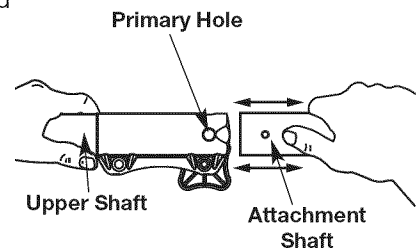
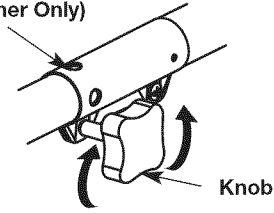

Fig. 10
Fig. 11
1. Turn the knob counterclockwise to loosen (Fig. 11).
3. While firmly holding the upper shaft, pull the trimmer attachment or other attachment straight out of the Convertible™ coupler (Fig. 10).
**CAUTION:** Before operating this unit, be sure that the release button is fully snapped into the primary hole (Fig. 10), and that the knob (Fig. 11) is securely tightened.
1. Turn knob counterclockwise to loosen (Fig. 11).
2. While firmly holding the trimmer attachment or other attachment, push it straight into the Convertible™ coupler until the release button snaps firmly into the primary hole (Fig. 10).
- Turn the knob clockwise to tighten (Fig. 11).
**NOTE:** When using the line trimmer or other attachment to edge, lock the attachment release button into the 90° hole (Fig. 11).